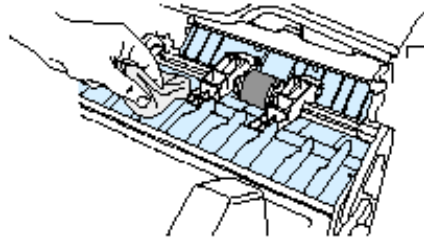

Figure 40. Media Path Area and Toner Cartridge Cavity
3. Wipe the media path area and the toner cartridge cavity with a dry, lint-free cloth as shown in Figure 40.